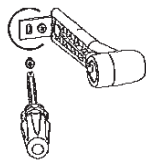

Fig. 5A
7. Turn the power on to the operator. Align transmitter and receiver by adjusting angle and height of the fixture (Fig. 5A and 5B).